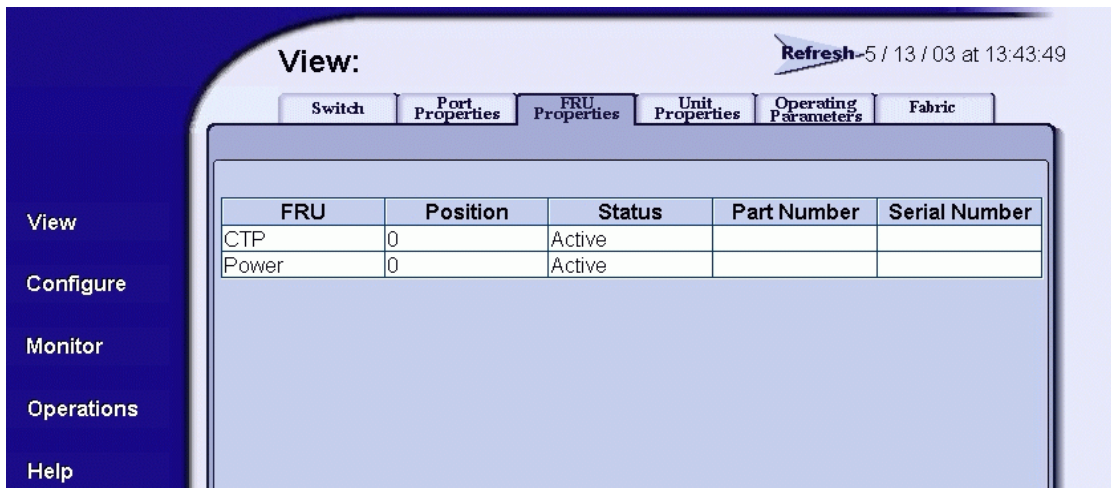

Figure 3-4 View Panel (FRU Properties Tab)
- a. At the *View* panel, click the *FRU Properties* tab. The *FRU Properties* page displays (Figure 3-4).